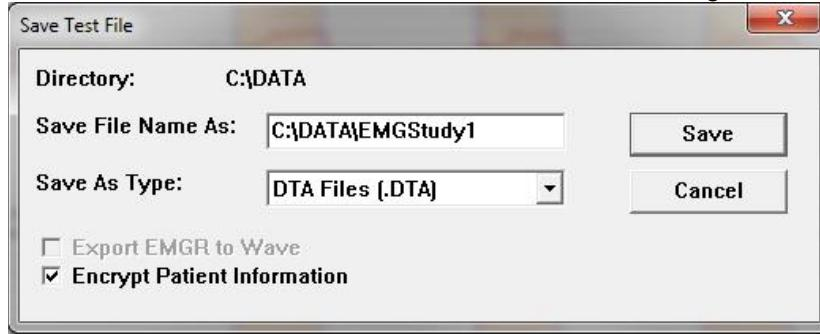

Figure 59: Save Test File Dialog Box
1. Click **Config** on the menu bar and select **Save As**. The Save Test File dialog box will appear (Figure 59).